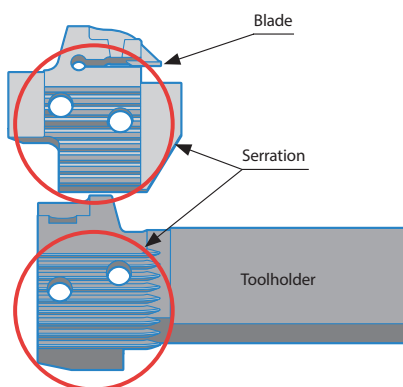

Fig.1
1. Use compressed air or other measures to remove chips and dust from the serration part. (see Fig.1)